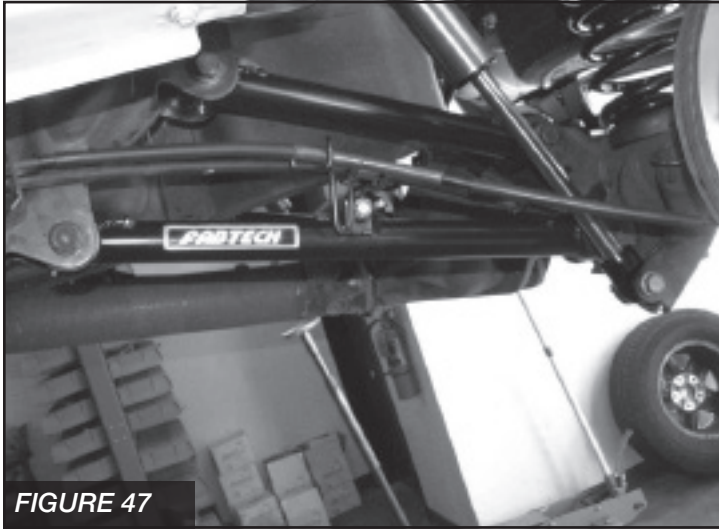

FIGURE 47
65. Remove the factory upper links arms and discard the links. Save the hardware. Install the new Upper Link Arms into the factory rear axle mounts with the factory hardware. Then attach the arm to the frame mounts also with the factory hardware. Torque to 160 ft.-lbs. **SEE FIGURE 47**